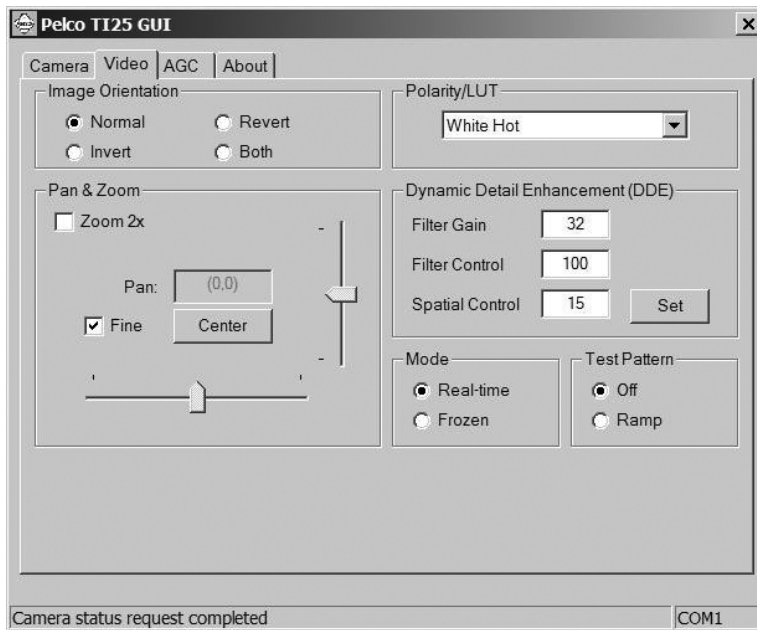

Figure 7. TI25 GUI Video Tab
1. Click the Video tab (refer to Figure 7).